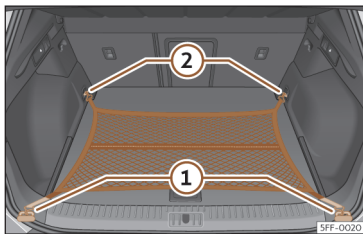

Fig. 192 In the boot: net bag hooked up at floor level.
- Secure the net hooks to the fastening rings >>> **Fig. 192** ① and ② >>> ⚠. The bag zip should be facing upwards.